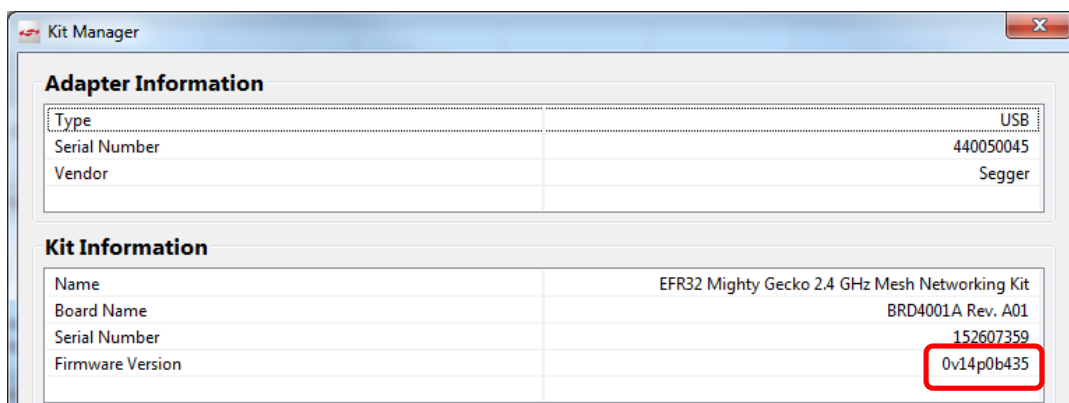

Figure 10. Kit Manager with Latest Board Controller Firmware
10. Your firmware is automatically updated to the latest version and displayed in the Kit Manager window once download is complete (Figure 10). Click **[Close]** to return to the Simplicity perspective.